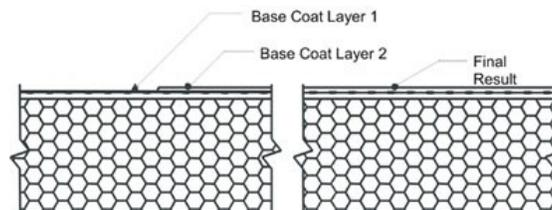

Fig. 25
- a. The base coat shall be applied such that the resulting overall minimum base coat thickness is sufficient to **fully embed** the reinforcing mesh. The recommended method is to apply the base coat in two (2) passes.
- 3) Allow the base coat mixture to take up until firm to the touch. Trowel a second tight coat of the base coat mixture over the first coat to **fully cover** the reinforcing mesh - Figure 25. The result should be such that the reinforcing mesh is approximately centered within the base coat thickness. Do not allow the first pass to completely dry prior to the second pass application or an excessive amount of base coat mixture will be necessary to fully coat the wall surface.